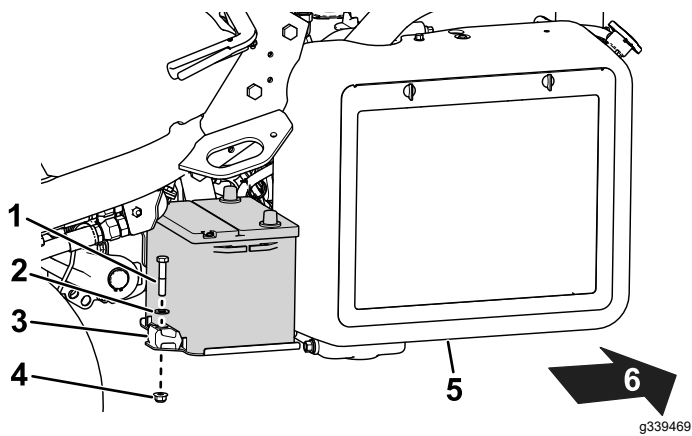

Figure 48
2. Remove the fasteners that secure the battery to the tray (Figure 48) and lift out the battery.
5. Place the battery on the battery tray and secure it with the previously removed rods and fasteners (Figure 48).